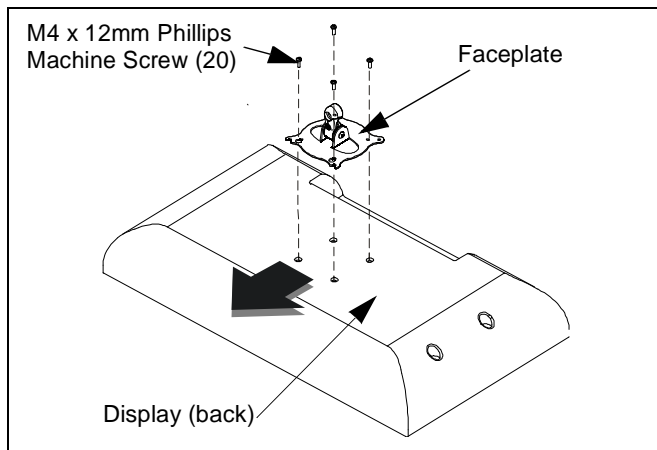

Figure 4: VESA® Flush Mount
2. Align mounting holes in faceplate with mounting holes in display back. (see figure 4)
3. Secure mount to display using four M4 x 12mm phillips pan head screws (20).
4. Install mount with display to wall bracket (90) following the instructions in the **Secure Mount to Wall Bracket** section.